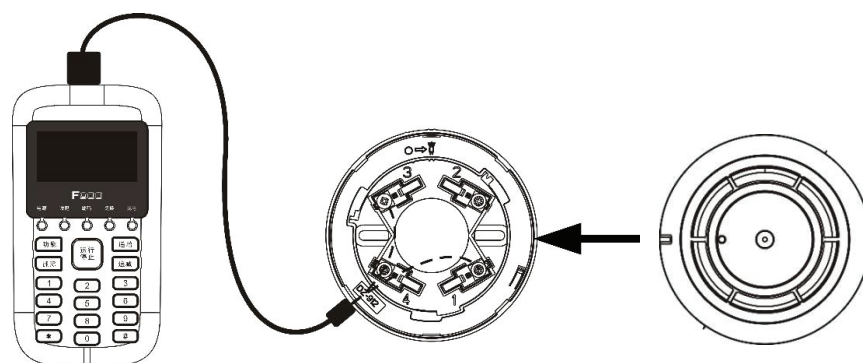

Fig.5
4. Coding address: As shown in Fig.5, detector is accessed via the detector mounting base on the coder, non-polarity connection is adopted for the terminals L1 and L2, set the coder with the coding